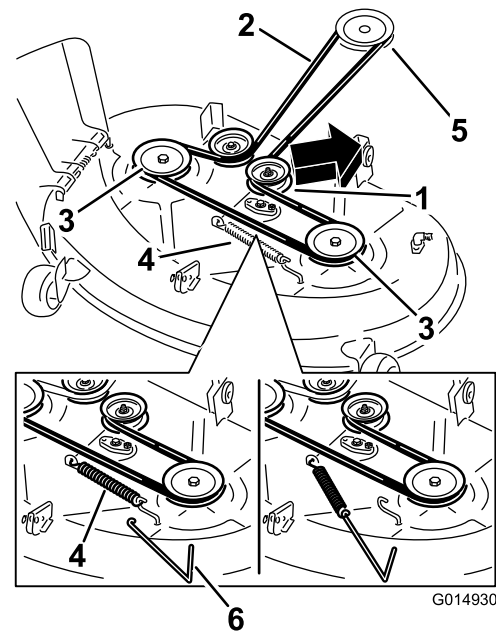

Figure 57
4. Using a spring-removal tool, remove the idler spring from the deck hook to remove tension on the idler pulley, and roll the belt off of the pulleys (Figure 57).
5. Route the new belt around the engine pulley and mower pulleys (Figure 57).
6. Using a spring-removal tool, install the idler spring over the deck hook, and place tension on the idler pulley and mower belt (Figure 57).